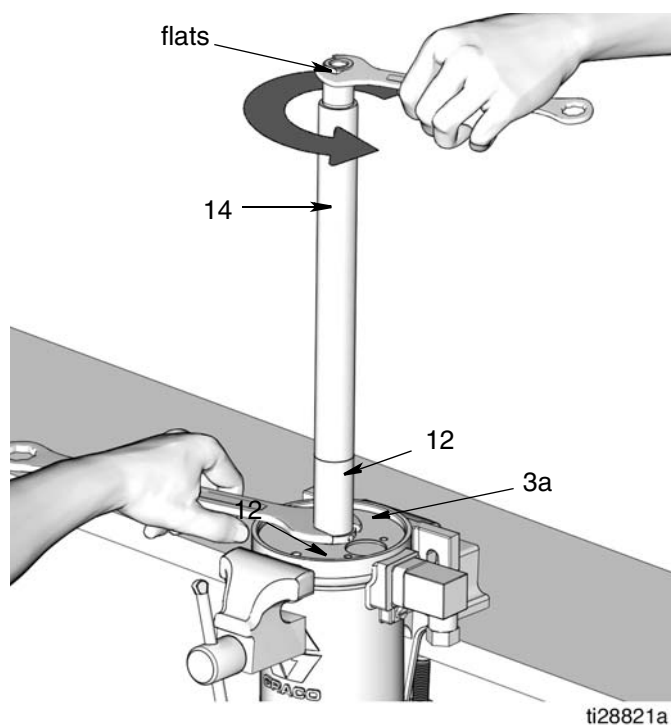

FIG. 38
17. Install pump cylinder (12) in air motor cylinder (3). Use a wrench to tighten nut (3a) securely. 28 to 32 ft. lbs. (37.9 to 43.4 N.m).
18. Install outlet tube (14) on pump cylinder (12). Securely hold nut (3a) [located on the bottom of the pump cylinder (12)] in place with a wrench. Secure a second wrench on the flats of the outlet tube (14). Turn outlet tube clockwise to tighten it to the pump cylinder (12) (FIG. 38). Torque to 28 to 32 ft. lbs. (37.9 to 43.4 N.m).